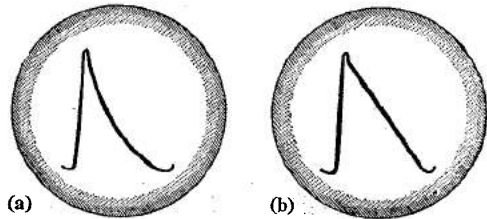

Fig. 2—(a). The ideal Miller Timebase voltage sweep and (b) (right) non-linearity at low frequencies.
**M**ANY experimenters are using the ex-Government radar tubes for television reception and have found that one of the simplest and most satisfactory types of timebase for this particular kind of electrostatic tube is the well-known Miller arrangement. The standard circuit, however, has certain defects which prevent optimum results being obtained. The three main drawbacks are the "pip" at the commencement of the scanning stroke, as shown in Fig. 2 (a), loss of linearity at the lowest frequencies, and considerable differences in sweep amplitude in any normal arrangement of the timebase for oscilloscope work, where various capacitors are switched between the grid and anode of the timebase valve by the coarse frequency control switch. The timebase also suffers from a rather long flyback time at the highest frequencies.